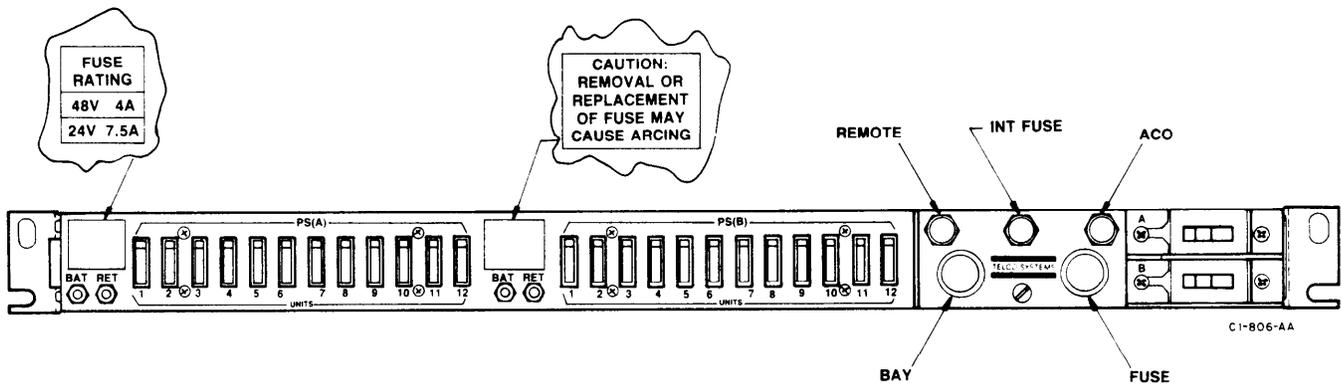

Figure 1-3. ACX025 Fuse and Alarm Panel
4.13 A separate Fuse and Alarm Panel (see Figure 1-3) mounted in the rack provides individually fused power lines for up to twelve units. In addition to power distribution, the panel provides wire-wrap pin blocks for alarm reporting, and TELTRAC interface connectors. On the ACX025 Fuse and Alarm Panel, BAY, FUSE, ACO (Alarm Cutoff), INT FUSE, and REMOTE alarm indicator lights are provided for visible indications (See Figure 1-3). Form A relays are provided for visual and audible MAJOR and MINOR alarms. Form C FUSE, ACO, and REMOTE closures are available as separate closures.